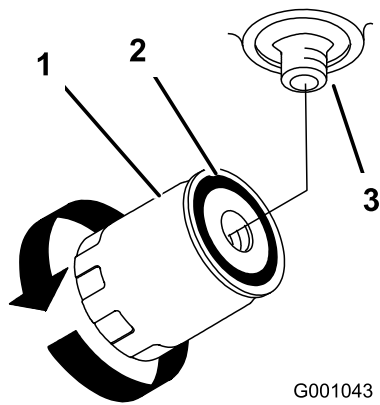

Figure 74
4. Remove the old filter and wipe the filter-adapter gasket surface clean (Figure 74).
7. Turn the filter clockwise until the rubber gasket contacts the filter adapter and tighten the filter an additional 1/2 turn (Figure 74).